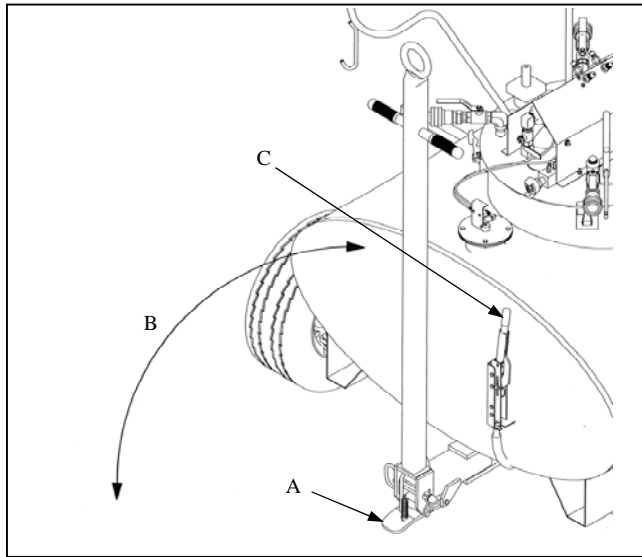

Figure 4-9. Releasing the Tow Bar
- b. See Figure 4-9. Release Tow Bar from the up-right position by applying foot pressure to Toe Latch (reference arrow A) and swing Tow Bar downward (reference arrow B).